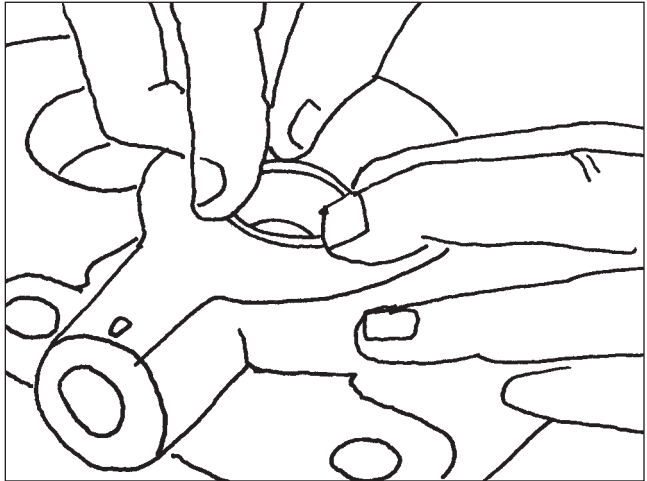

Figure 75
15. Press the salt seal into the cap until it is flush with the bearing cap. Pack the area between the oil and salt seal with grease.(Figure 75).